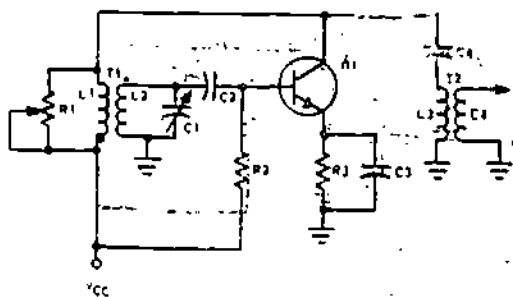

Figure 43-1
(NOTE: Questions 1 through 15 refer to the schematic diagram, figure 43-1).
1. Figure 43-1 is the schematic diagram of a/an _____ oscillator.